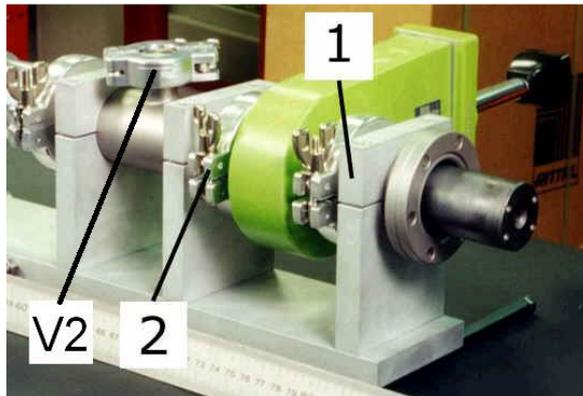

Fig.3
4. put the instrument in the same porthole, with the same orientation (use the signs on the vessel); close, without tightening, the clamp (2) and the support (1) of SXR1,3,4 (see Fig.3);
6. tighten the support (1) of SXR1,3,4 and AFTER THAT tighten the clamp (2) (see Fig.3) (the alignment of the diagnostic is made with the rigid supports, not with the clamp!);